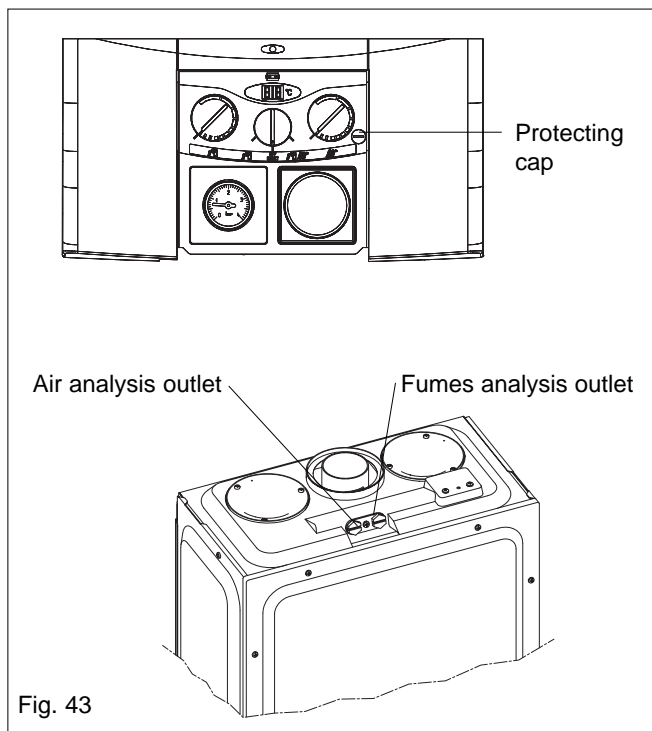

Fig. 43
- Insert the flue gas analyser probe into the right hand test point (see fig 43).
- Locate and remove the protective cap that conceals the 'CO mode' button (see fig. 43).